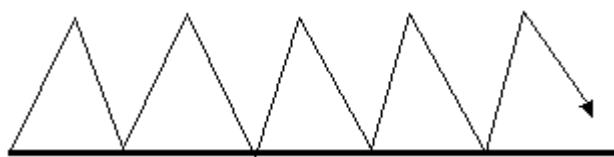
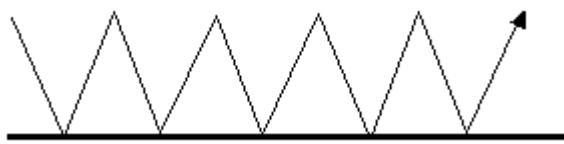

Figure 19: Alternating sequence beginning with ascension
Figure 20: Alternating sequence beginning descending
- An alternating ascending and descending sequence is scheduled in an alternating sequence building. It is randomly chosen, whether to start as ascending or descending. Both possibilities are illustrated in Figure 19 and Figure 20.